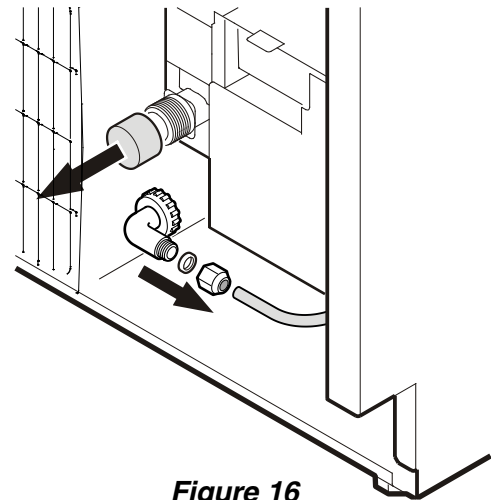

Figure 16
5. Remove the cover from the valve connector (**Figure 16**).
6. The water line is visible at the front of the appliance. Connect the water line with the OD adapter (**Figure 16**).